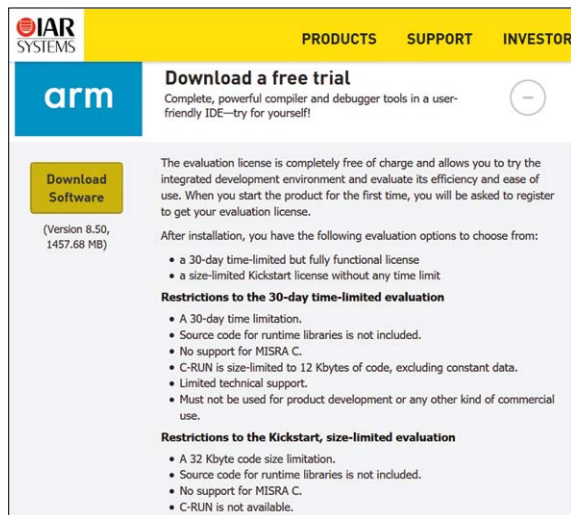

Figure 3.1: Installing the EWARM.
- Download the IDE from the following link. At the time of writing this book the latest version was 8.50. This IDE occupies about 1.45 GB and has the name EWARM-CD-8505-26295.exe (Figure 3.1):